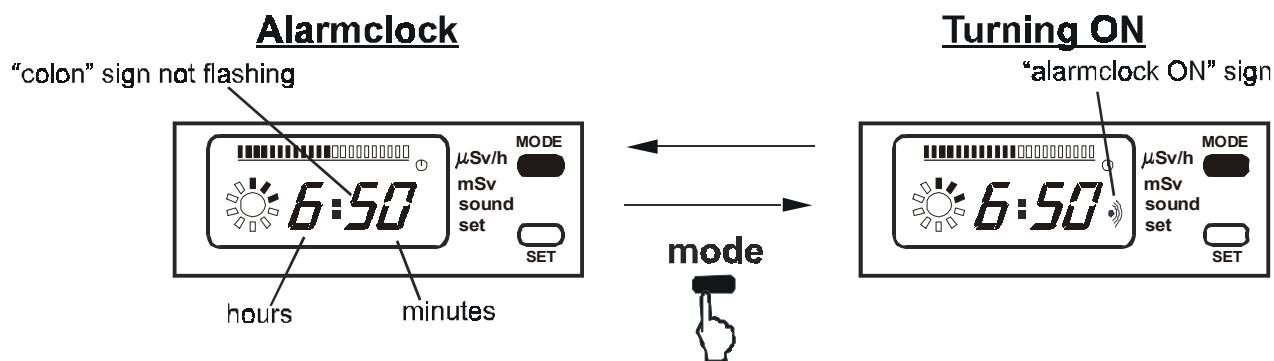

Fig. 7
**To turn the alarmclock ON**, press and release the **"mode"** button when the alarmclock ON time is displayed; the corresponding sign will be indicated (Fig. 7) (to turn the alarmclock OFF it is necessary to press and release the **"mode"** button again). The alarmclock signal will sound at the preset time.